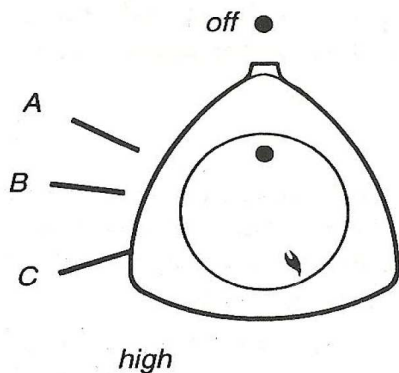

Fig. 18
The oven burner is designed to prevent the flame being accidentally blown out completely, but if this should happen, a safety device cuts off the supply of gas to the oven. The oven control is positioned at the right-hand end of the control panel; the three most useful heat settings are marked, and designated on the Cooking Chart by letters as shown in Fig.18.
- See Fig. 18 for Knob Settings. Settings A, B & C give oven temperatures approximately equivalent to Gas Marks 2, 5 & 7 respectively.